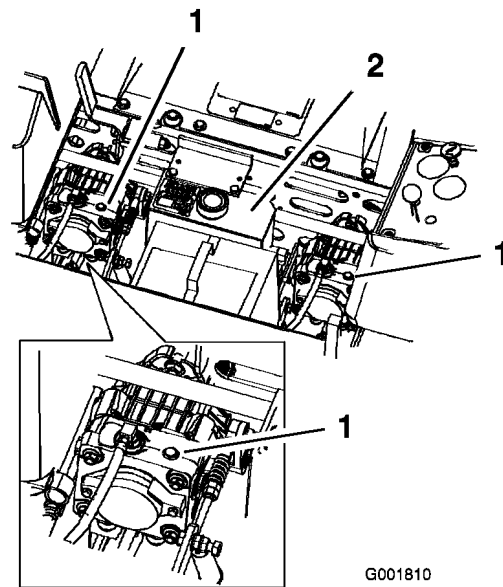

Figure 31
2. Rotate the by-pass valves counterclockwise 1 turn to push. This allows hydraulic fluid to by-pass the pump enabling the wheels to turn (Figure 31).
Rotate the by-pass valves clockwise 1 turn to operate machine (Figure 31).